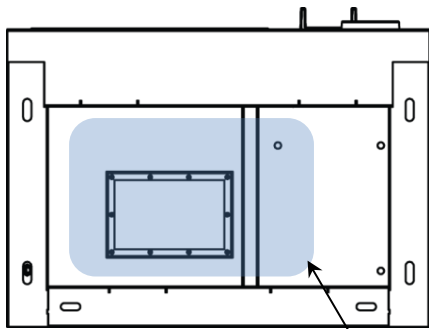

Figure 7
- Route services through concrete floor up into metal plinth's void area, see Fig. 7